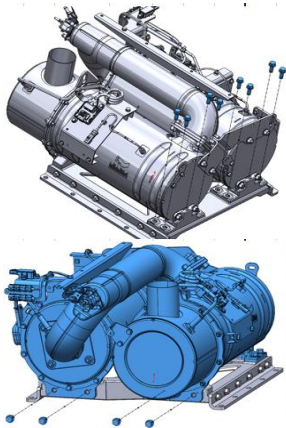

Figure 12
11. Uninstall the ATD unit (30) from the pre-installed bracket by removing the M12X30 and M12X70 bolts as shown in the figure 12.
18. Install the bracket (3) onto the intake side of the radiator as shown in the figure 12 using Isolators (4) and hex nut (5).